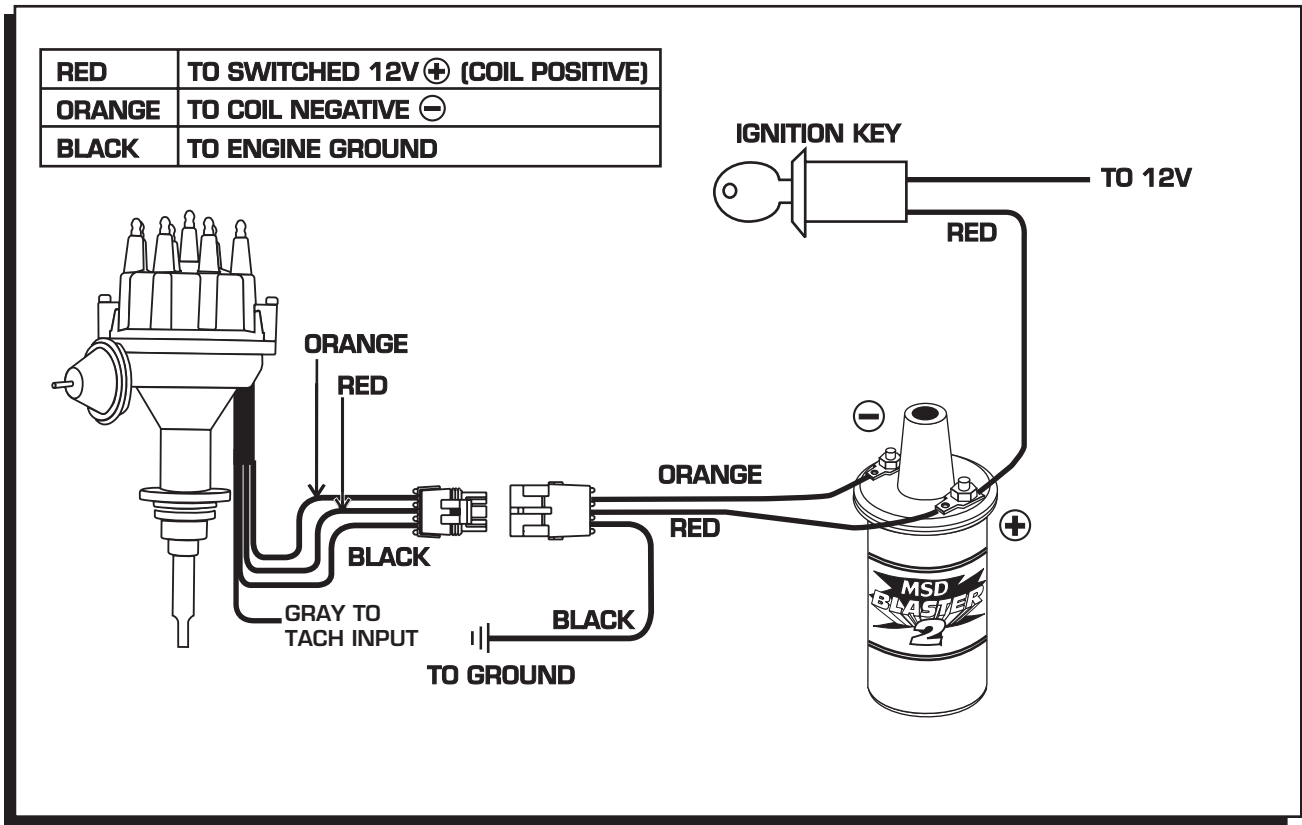

Figure 12 Wiring the Ready-to-Run Chrysler Distributor.
11. Connect the supplied wiring harness to the distributor. Route the wires to their connections as shown in Figure 12.